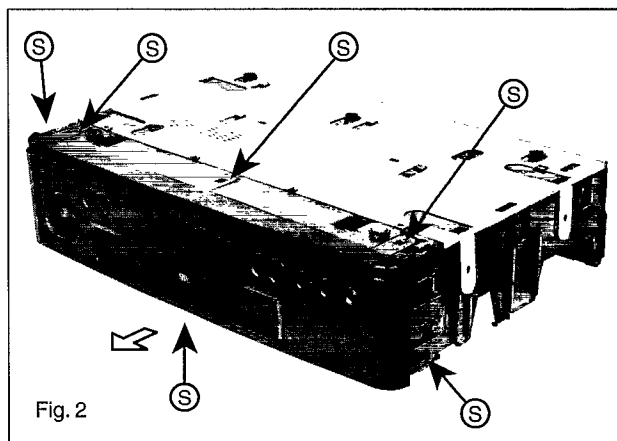

Fig. 2
2. Base plate (Fig. 2)
3. Front panel (Fig. 2)